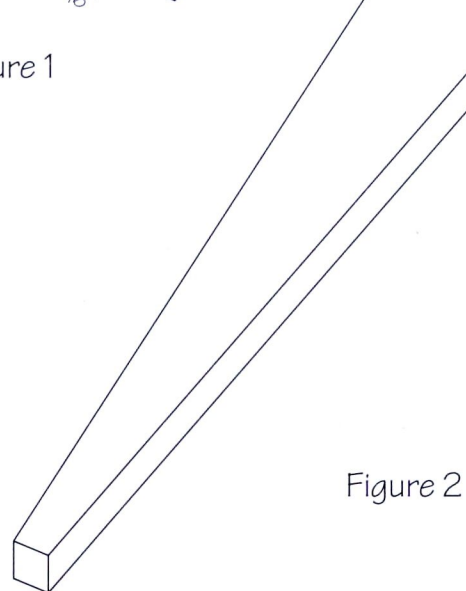

Figure 2
3. Set the rip fence on your table saw to 3" to rip off the top corner of each leg. Adjust the fence until the vertical edge is $2\frac{1}{2}$ " long (see figure 2).